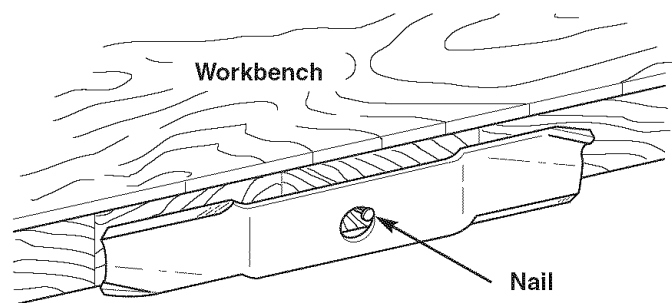

Figure 19. Balancing The Blade
6. Balance the blade as shown in Figure 19. Center the blade’s hole on a nail lubricated with a drop of oil. A balanced blade will remain level. If the blade is not balanced, continue to sharpen the heavy side until it balances.